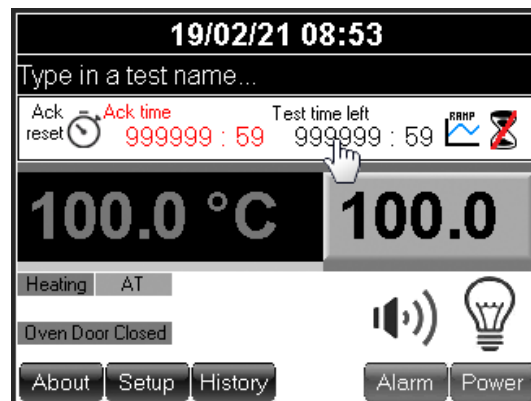

Fig 2.3.3c
2. Test timer – next to the hourglass symbol. (Fig 2.3.3c)